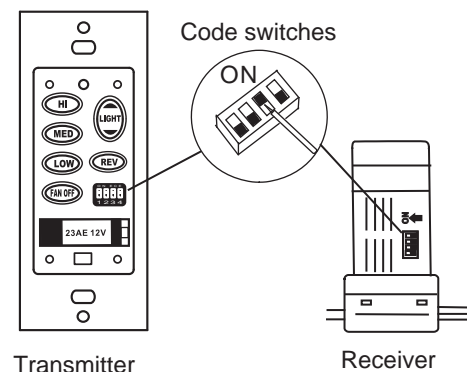

Figure 4
5. The position, (either up or down) of the frequency switches (dip switches) on the transmitter control the operational radio frequency and MUST match, in the same order, the switches on the receiver unit. See Figure 4. Any combination of settings is fine as long as the transmitter and receiver are set in EXACTLY the same order.